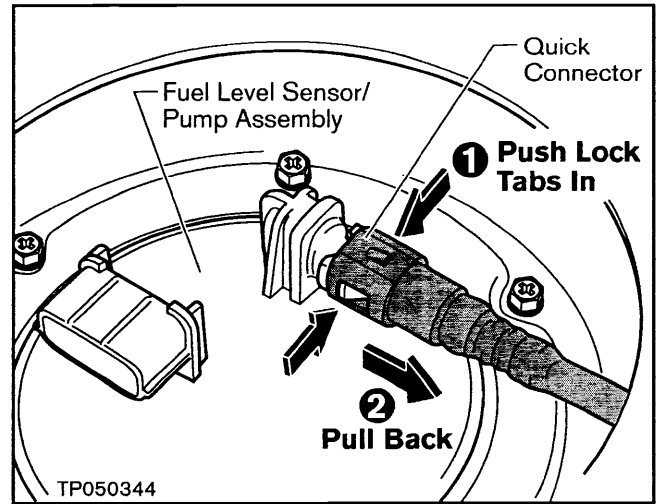

Figure 4
- First, press **IN** on the two side Lock Tabs (see Figure 4).
- Then, pull **BACK** on the Quick Connector (see Figure 4).